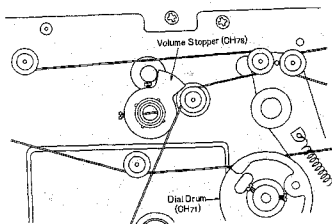

Fig. 21
2. Insert the volume stopper at the position shown in fig. 21.